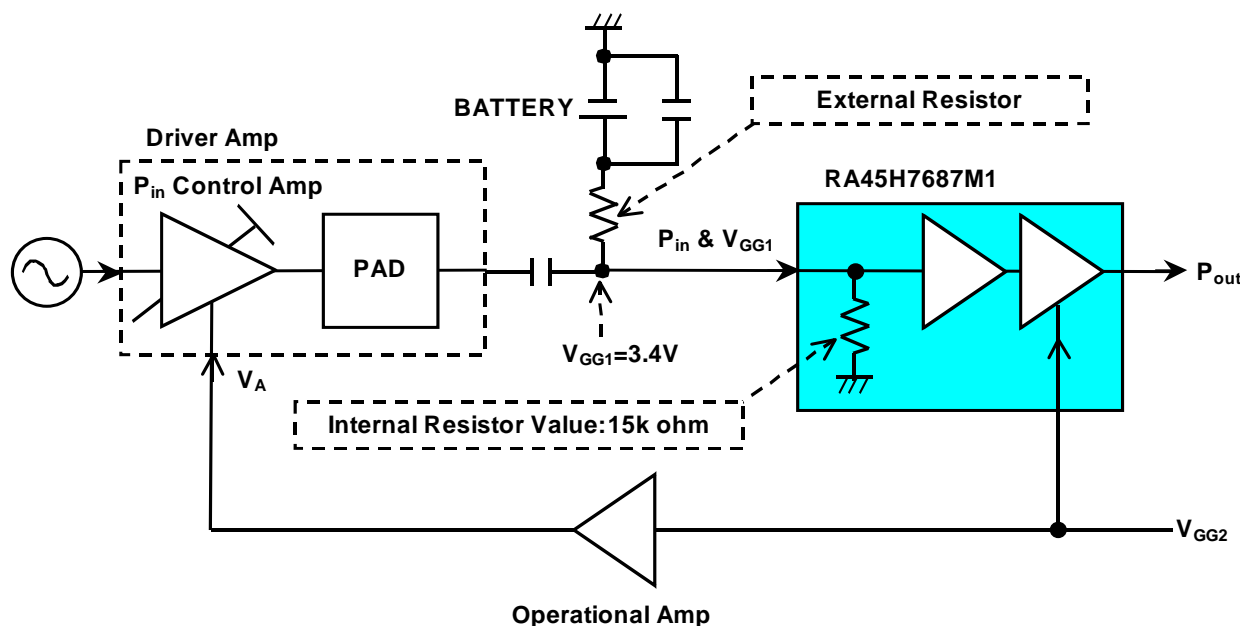

Figure 1 Recommended output power control block diagram for RA45H7687M1
Figure 1 shows recommended output power control of RA45H7687M1, which can be controlled by  $V_{GG2}$  and  $P_{in}$  adjusters.
The internal resistor value in this module between  $V_{GG1}$ , where RF is input, and ground is equal to 15k ohm as shown in figure 1. DC voltage between  $V_{GG1}$  and ground has to be fixed at 3.4V (tolerance=7%) to keep minimum performance. So, it is necessary that the external resistor value and the battery voltage shown in fig.1 should be set accurately. A design example of the external resistor value (ERV) and the battery voltage (BV) is indicated below.